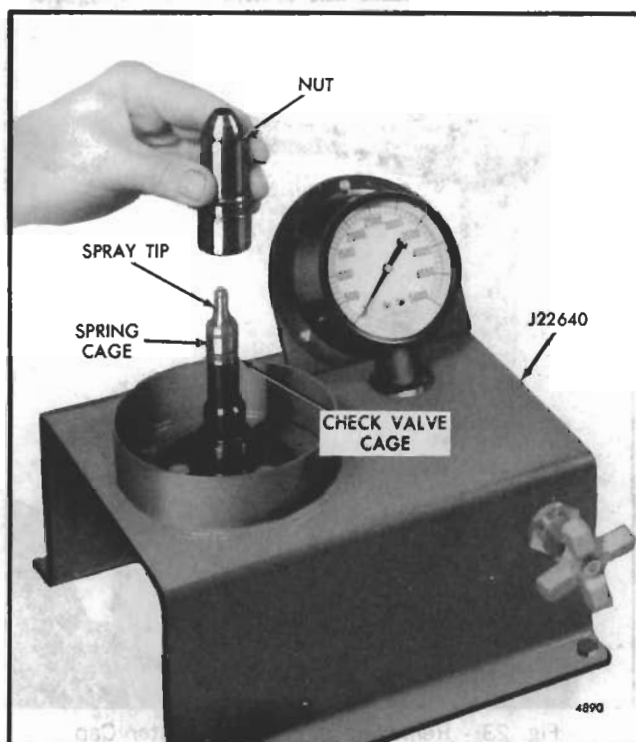

Fig. 18 - Installing Injector Valve Parts on Auxiliary Tester J 22640
2. Assemble cleaned injector parts, including the check valve cage, spring, spring seat, spring cage and spray tip assembly, on the auxiliary tester J 22640 (Fig. 18).